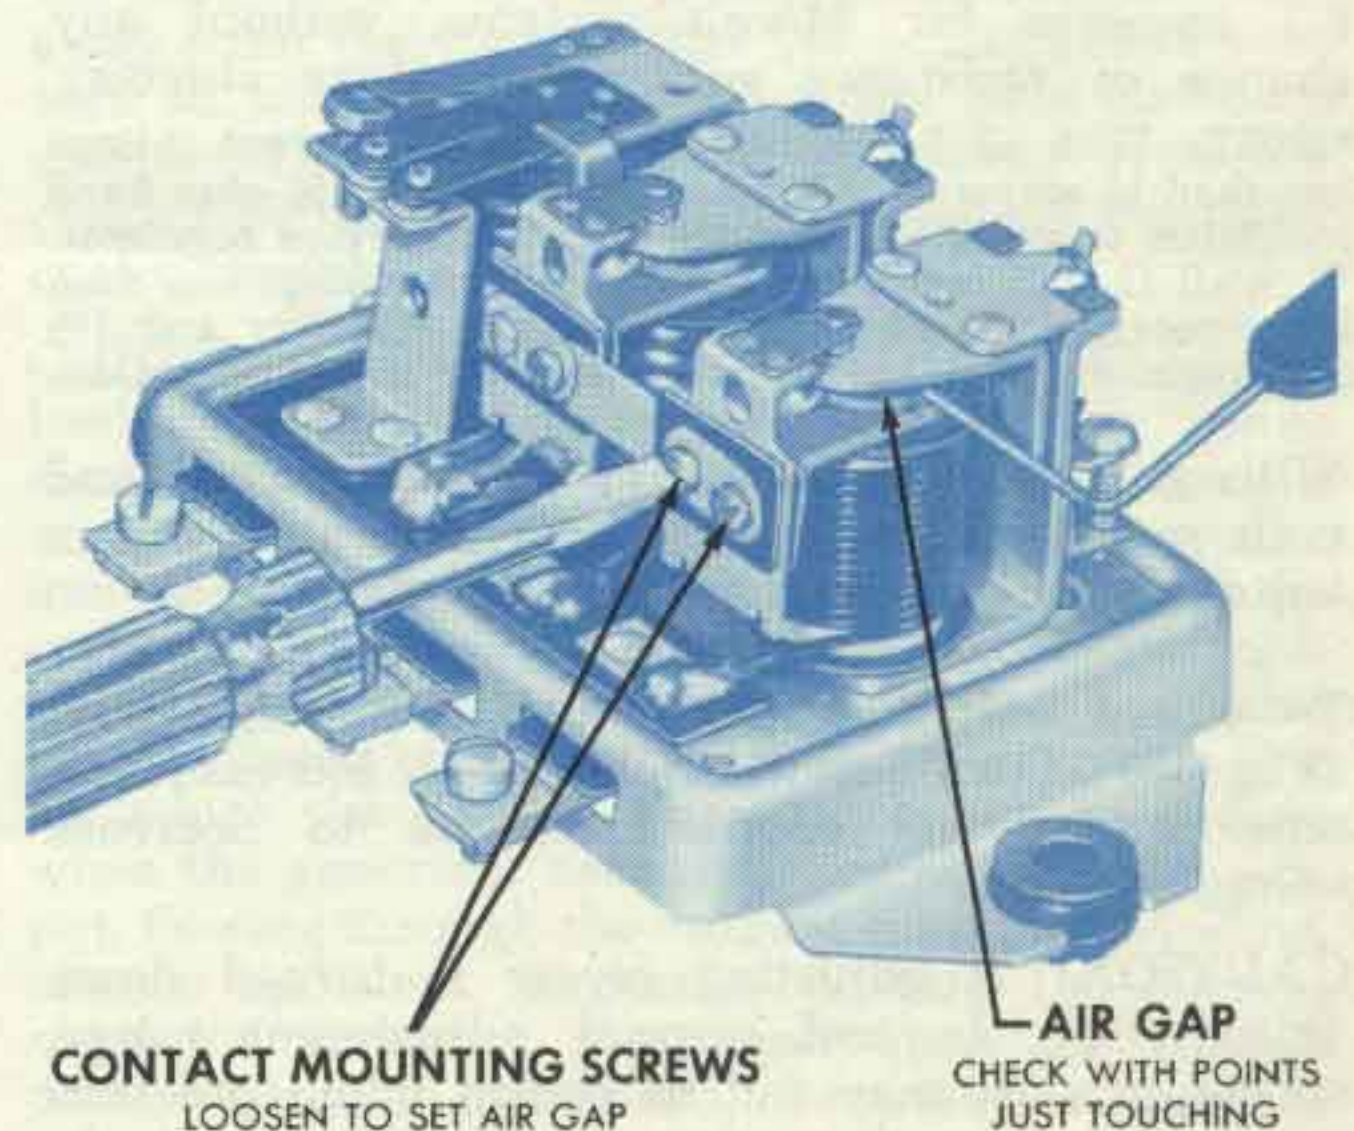

Figure 10—Voltage regulator air gap check and adjustment.
**AIR GAP**—To check air gap, push armature down until the contact points are just touching and then measure air gap (Fig. 10). Adjust by loosening the contact mounting screws and raising or lowering the contact bracket as required. Be sure the points are lined up, and tighten screws after adjustment.